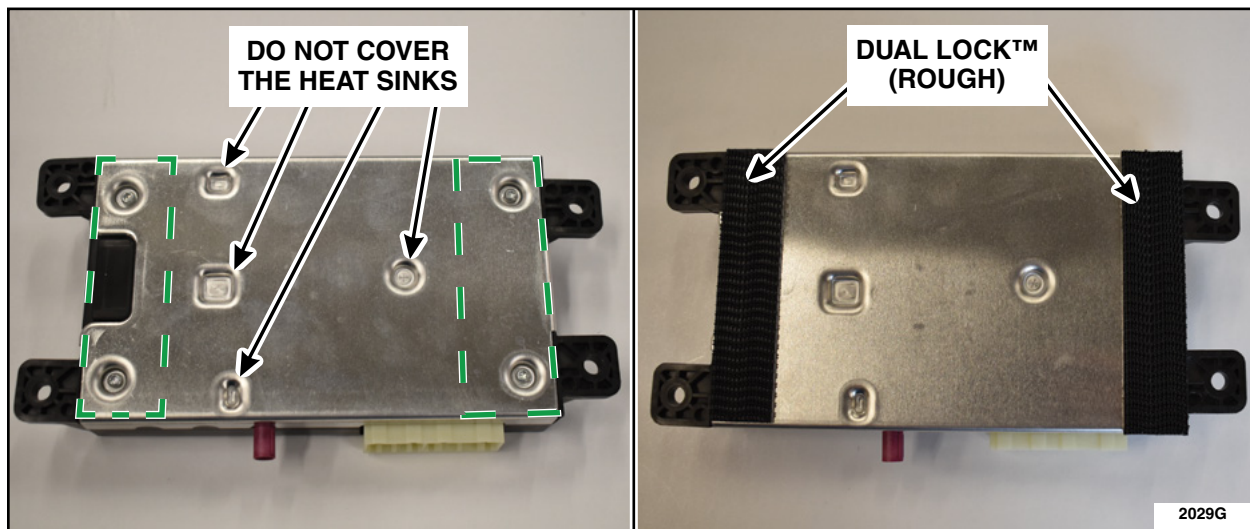

FIGURE 8
9. TCU Preparation. See Figure 8.